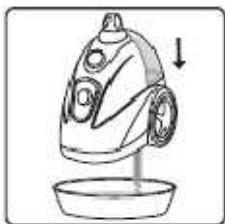

fig.28
4. The water will flow out with the calcium residue. (fig.28)